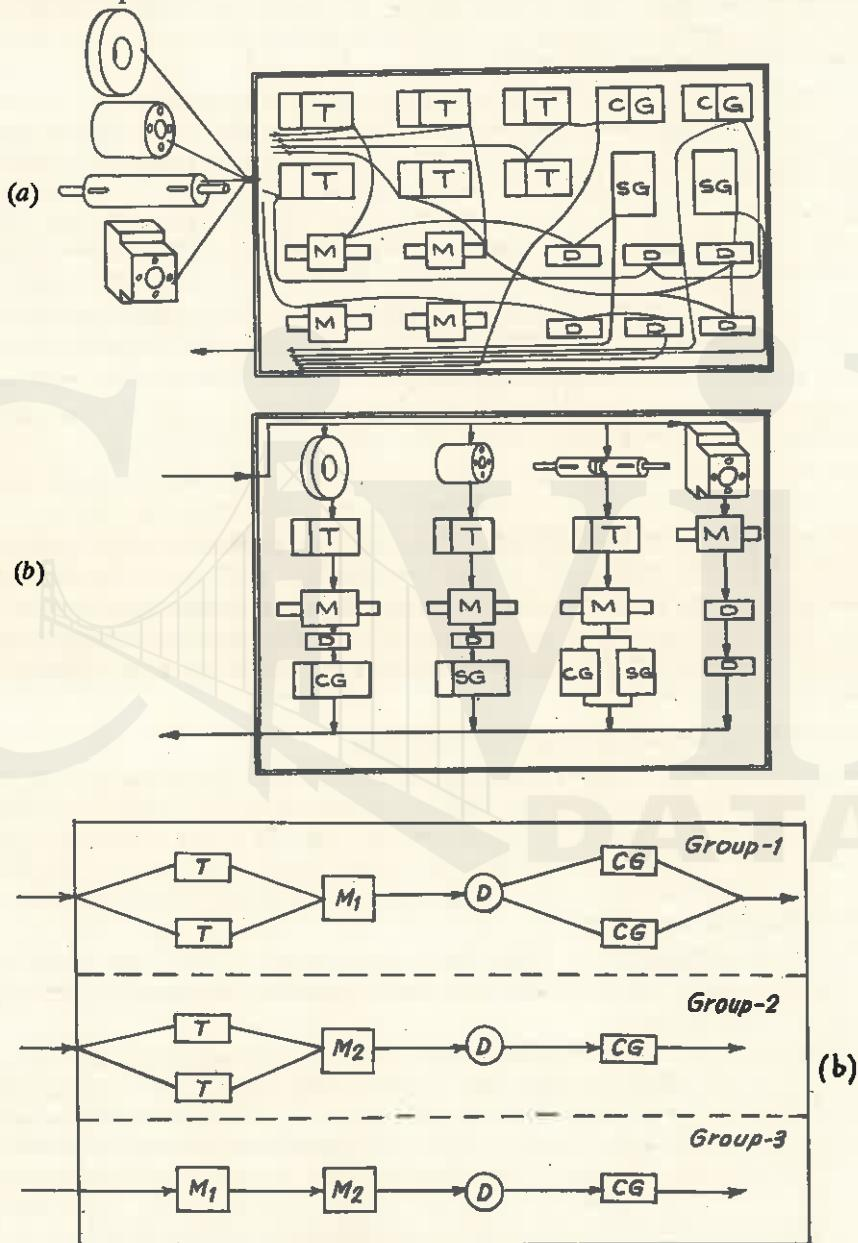

Figure 6.10. (a) Function and (b) group layouts
- In a typical factory organised for small batch production, the machines are by tradition usually arranged according to their *function*, for example, in a metal cutting industry, there may be a turning section having lathes, a milling section having various types and sizes of milling machines and so on (Fig. 6.10). A component during manufacture may need to visit some or all of these sections. This results in heavy losses of time due to the resetting of machines, in particular, as *largely dissimilar parts* may be loaded successively, causing large queues of parts awaiting processing on each machine. *Further problems associated with small batch production are :*
- In a group/cell layout system Fig. 6.10 (b), the layout design is not according to the functional characteristics of machines, but rather by groups of different machines (called *cells*) that are necessary for the production of families of parts. Fig. 6.10 (b) shows four families of parts. The first